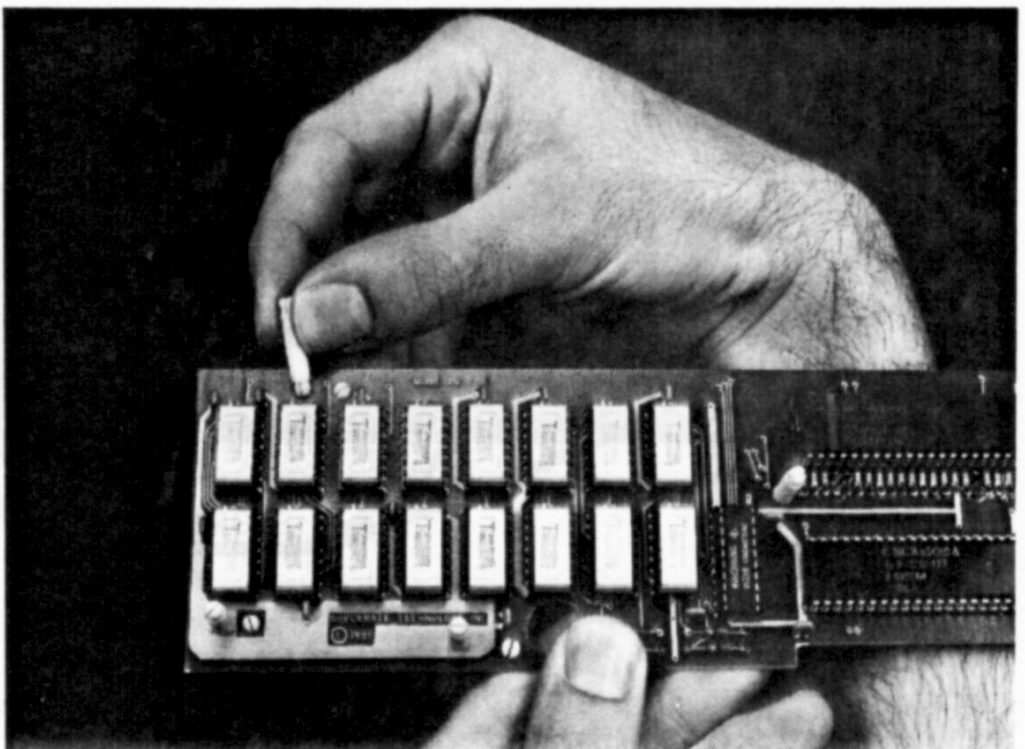

FIGURE 2.11
2. Insert the six keyboard support posts into the six holes on top of the card. Insert the two longest posts into the holes at the top left corner and center of the card as Figures 2.11 and 2.12 show. Insert the four short posts into the four remaining holes on the card. Do not change the position of the four short pins which are on the bottom side of the board.